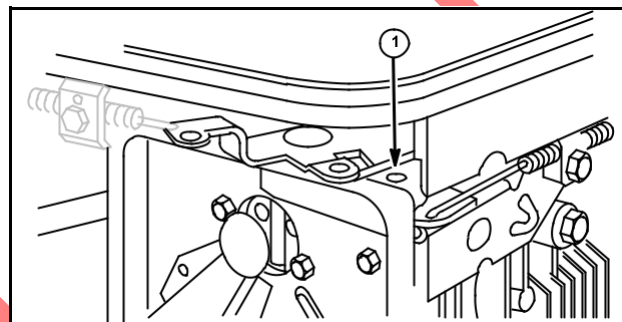

Fig. 11
1. Move control lever until a 1/8" (3.18 mm) dia. rod can be inserted through hole (1) in control plate and control lever, Fig. 11.
2. Place equipment control in "RUN" position and install casing and wire on control lever and control bracket, Fig. 11.